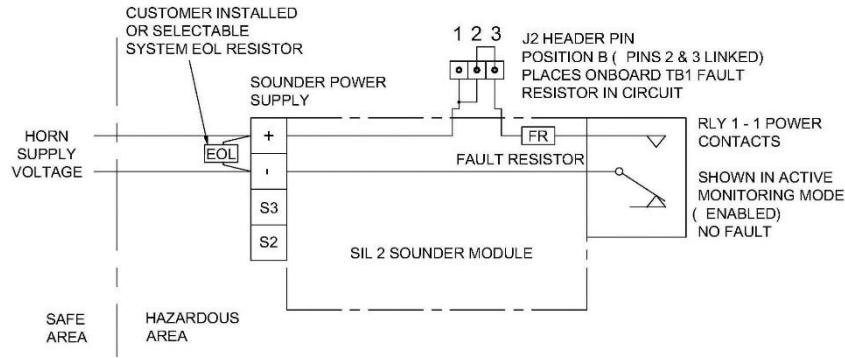

Figure 12 - Schematic of SIL 2 system wiring for fault detection in standby mode only – 2 wire installation
**Important:** - The 2-wire configuration requires the J2 header pin to be set to position B (see figure 12). Factory default position is A.